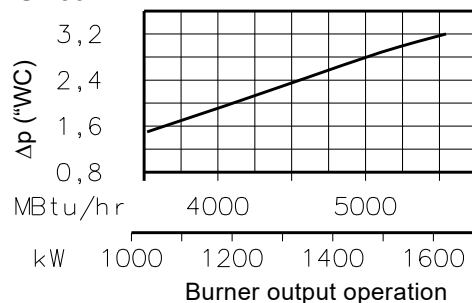

Fig. 21
The diagram (Fig. 21) show minimum load losses at combustion head depending on the maximum burner output operation with natural gas (G 20).
Gas pressure is measured at the test point 1)(Fig. 21), with:
- subtract the combustion chamber pressure from the gas pressure measured at test point 1)(Fig. 21);
- find, in the diagram (Fig. 21) the pressure value closest to the result you want;
- Gas pressure at test point 1)(Fig. 21) = 3.15 "wc
To know the required gas pressure at test point 1)(Fig. 21), set the maximum output required from the burner operation, then:
- read, on the diagram (Fig. 21), the pressure test point 1) (Fig. 21);
- pressure required at pressure test point 1) (Fig. 21).